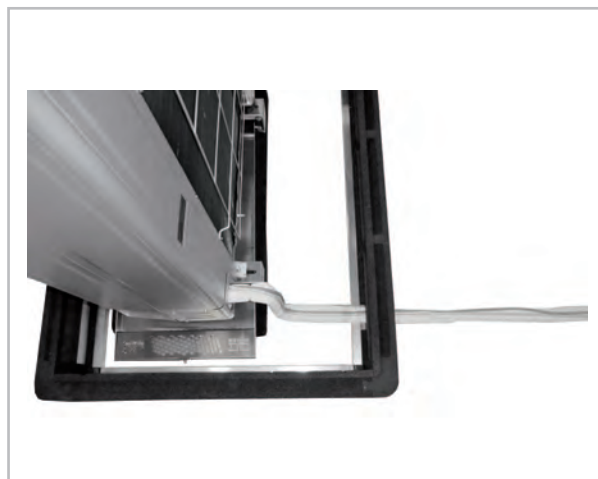

Fig. 18
7. ➤ Once you have installed the bottom aluminium frame, place the first ring element (⚡ 'Components on the noise protection hood' on page 23, item 1) over the outdoor unit (Fig. 17 and Fig. 18) and draw the position of the refrigerant piping on the ring element accordingly so that you can remove the opening from the ring element. Lift the ring element off the outdoor unit again and remove the area that you previously drew. To remove the opening for the piping, use suitable tools such as a cutting knife, a jigsaw or a long saw blade.
8. ➤ After you have created the opening, place the ring element back over the outdoor unit and secure it around the aluminium frame (Fig. 18).